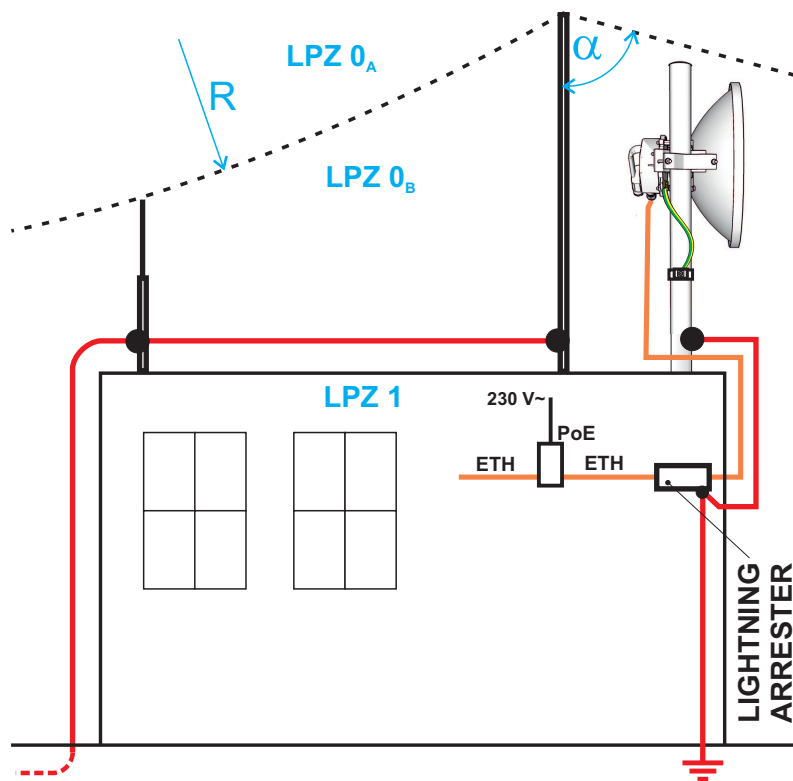
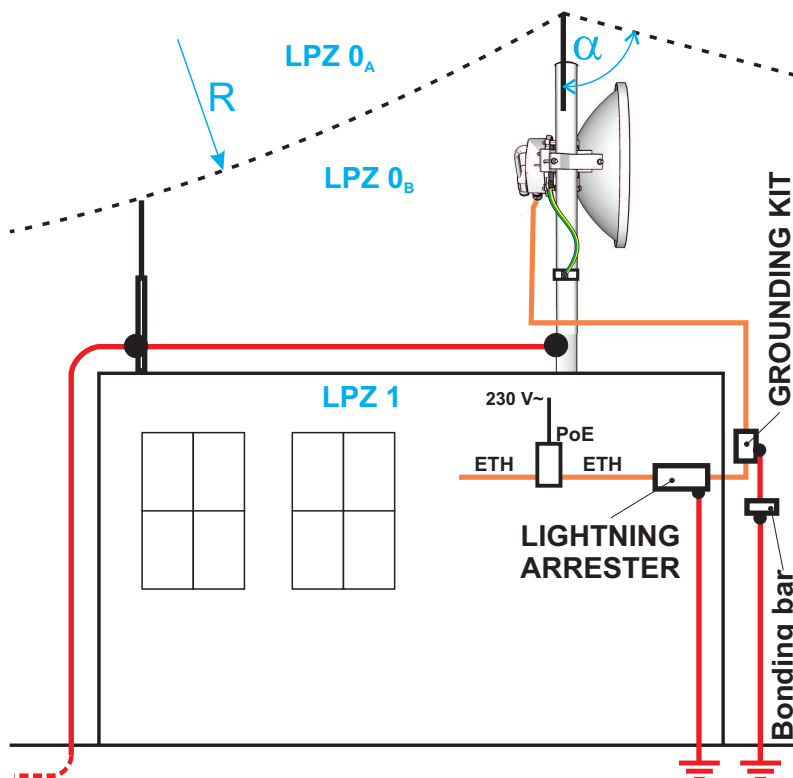

Fig. 4.19: Grounding installation 1
Fig. 4.20: Grounding installation 2
Typically the unit is grounded to the antenna mast, which has to be properly grounded (according to *Fig. 4.19, "Grounding installation 1"* and *Fig. 4.20, "Grounding installation 2"*, where unit grounding to the antenna mast is marked by yellow-green cable).
2. When meeting conditions for ensuring electrical insulation (distance from the lightning conductor) in accordance with article 6.3 of this standard, it is not recommended to ground the load-bearing structure and antenna to the external air termination network. Grounding should be attached to the protective system of the internal LV (Low Voltage) wiring or grounded internal structures using a CYA 6 mm2 bonding conductor , see *Fig. 4.19 Grounding installation 1*.
3. If it is not possible to set up conditions of electrical insulation in accordance with article 6.3 of this standard, we recommend connecting the load-bearing structure at roof level to the external air termination network via an 8mm diameter FeZn conductor and shielding the data cable before entry to the building with a grounding kit and CYA 6 mm2 conductor to the bonding bus, and if not already set up then also to the external air termination network, see *Fig. 4.20 Grounding installation 2*.
*Overvoltage protection*41 unit is recommended to be applied between RAY unit and PoE power supply – for details see *Section 4.5, “Grounding and overvoltage protection”* (easily visible on *Fig. 4.19, “Grounding installation 1”*).